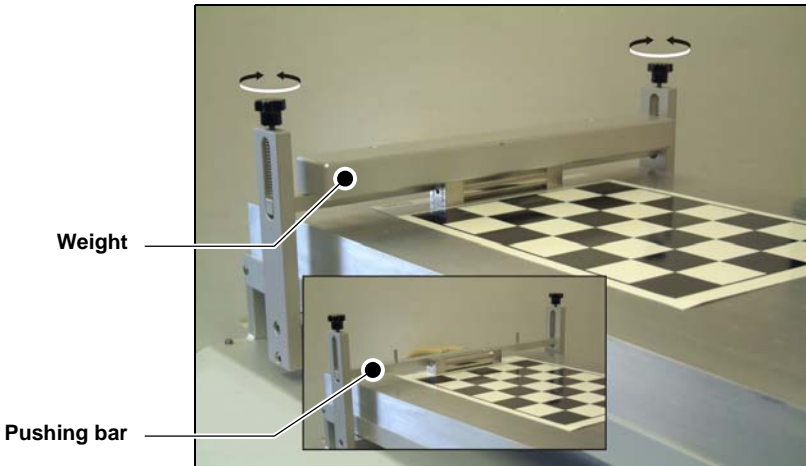

Figure 9. Standard carriage
3. Check to ensure the top surface of the pushing bar is below the top of the film applicator tool. If adjustment of the height of the pushing bar is required, rotate the knobs (Figure 9) an equal amount.